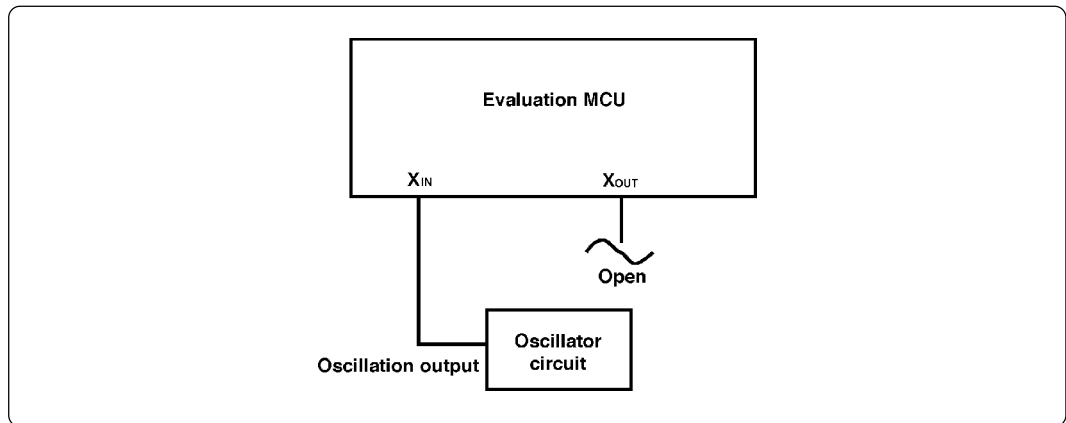

Figure 4.5 External oscillator circuit
(2) Using target system's oscillator
- a. To operate the emulator with an external clock, construct the oscillation circuit shown in Figure 4.5 in the target system and input the oscillation output at 40-60% duty (within the operating range of the emulator's MCU) into the X_{in} (X_{cin}) pin.